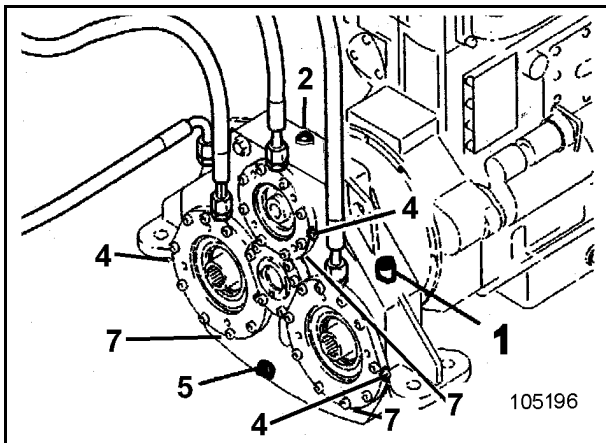

Fig. 3-107
- Unscrew plug (7, Fig. 3-107) and drain off oil.
- Screw plug (7) back in place.